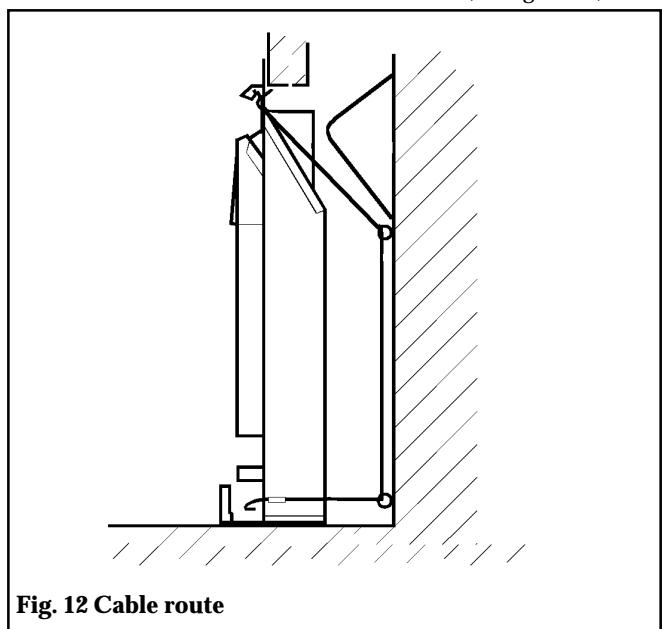

Fig. 12 Cable route
**7.2.5** Thread the cables through the upper eyebolts in the rear wall and then through the lower eyebolts. Return the cables through the holes near the bottom of the convection box back panel and through the "V" shaped brackets near the bottom front sides of the convection box (see figure 12).